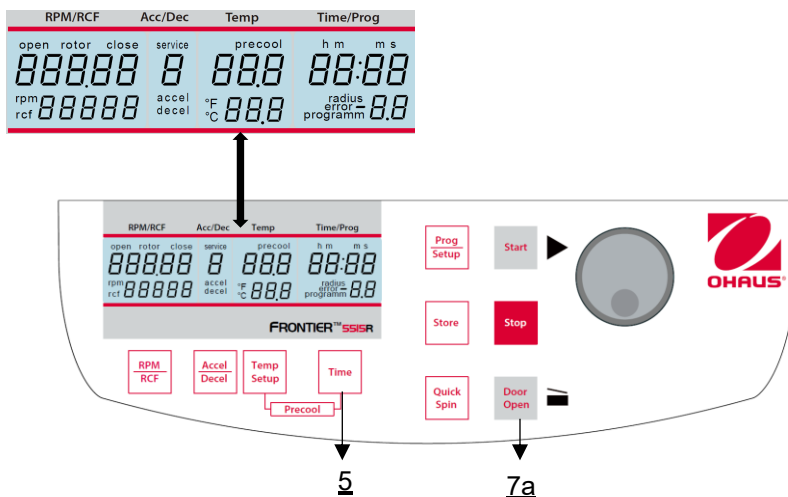

Figure 29
Open the centrifuge lid and shut off the main switch. Now switch on again the main switch. For approximately 3 seconds the model name will be shown in the display as well as the current software version. Press during this time the keys **"Time"** (5) and **"Door Open"** (7a) simultaneously. As a result, a display test is executed for approx. 3 seconds. All indicators will appear at the same time (see Figure 29).